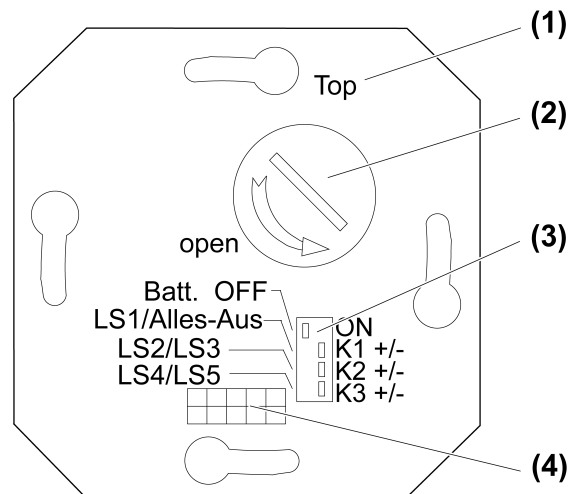

Figure 1
- Move **Batt.** switch (3) to the right to the **ON** position.
- Select functions of the buttons with the function switches (3) according to the following table (Figure 1).